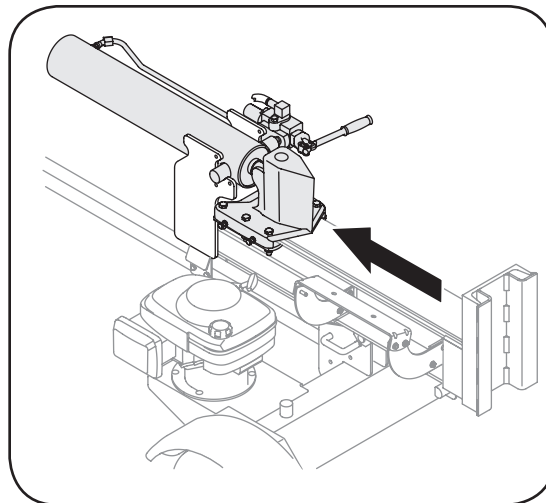

Figure 3-6
4. Lift and slide the cylinder up to the top of beam and into the weld brackets. See Figure 3-6.